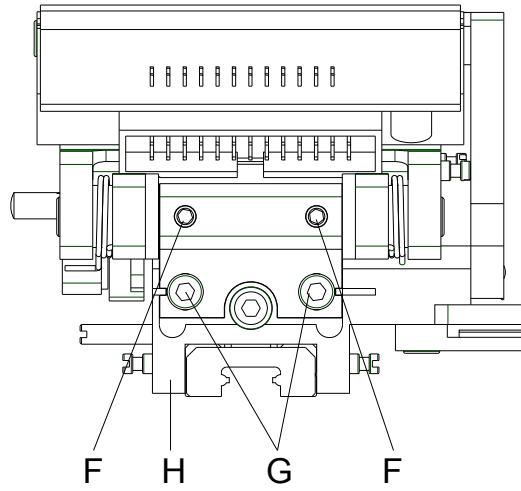

Figure 21
4. Remove Allen head screws (G, Figure 21).
6. Start the necessary service work, e.g. replacing springs (C) or printhead fastener.
The component can be decomposed in more individual parts. Unscrew the pillars (F) and remove the printhead shaft (D). At installation take care of parallelism of slots next to the screws (G) to the slots in the guiding carriage (H, Figure 21).